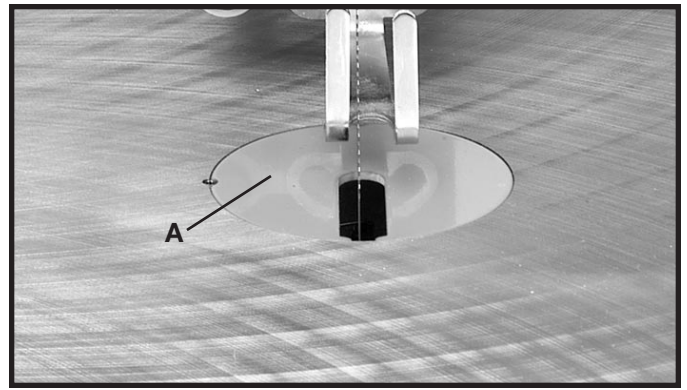
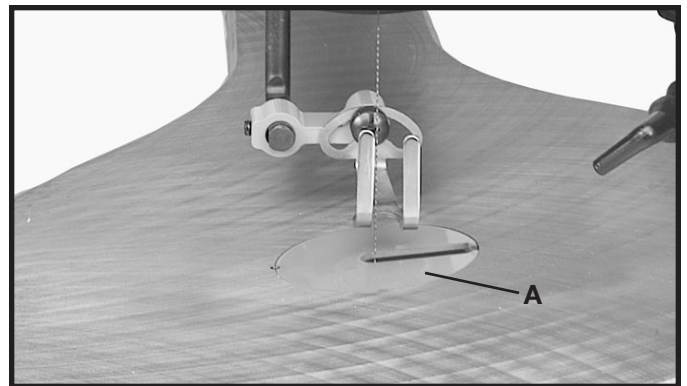

Fig. 18
Fig. 19
The table insert (A) can be positioned in the saw table with the opening in the insert pointing to the front of the table, as shown in Fig. 18, or to the right as shown in Fig. 19.
With the table in the level position, 90° to the blade, the insert (A) should be positioned, as shown in Fig. 18. This allows for the blade to be pivoted forward after it is unclamped from the top blade holder, enabling you to quickly insert the blade into the next hole in a pattern when doing inside-cutting, as you will see later in this manual.
When tilting the table for bevel cutting operations the insert (A) should be positioned as shown in Fig. 19. This allows for clearance of the blade when tilting the table.